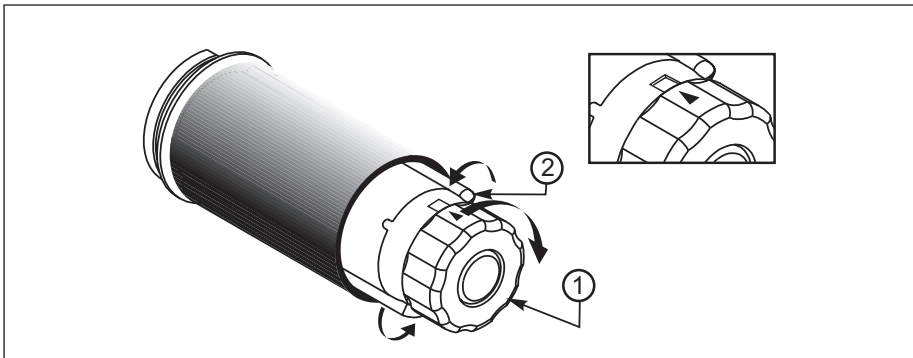

Figure 25
7. Before wrapping the ribbon around the ribbon take-up spindle, ensure that the arrow on the knob aligns with the indented notch (see Figure 25 inset).
2. Refer to Figure 25. While holding the ribbon take-up spindle, turn the knob (1) clockwise until it stops. This will cause the ribbon release bars to pivot down (2), easing the spindle's "grip" on the wound ribbon.
3. Slide the ribbon off of the ribbon take-up spindle. Once the spent ribbon has been removed, ensure that the arrow on the knob aligns with the indented notch in the ribbon take-up spindle (see Figure 25 inset).